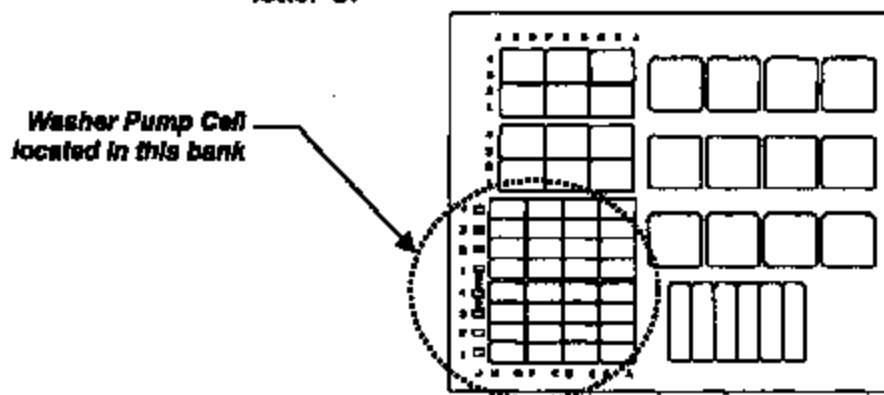

Figure 1
B. Locate cell labeled, "5A WASHER PUMP," in the lower left bank of cells (see figure 1).